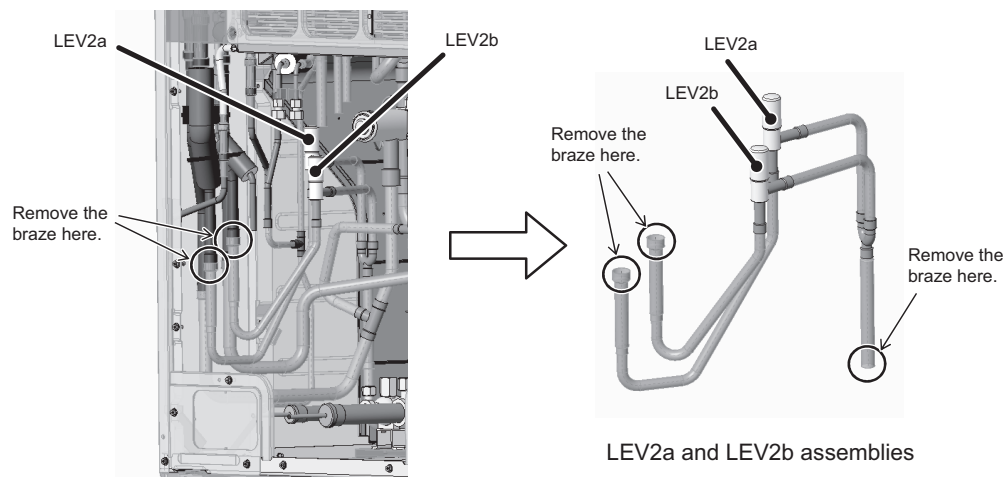

Figure 12
(12) Remove the braze at the three areas circled in Figure 12 to remove LEV2a and 2b assembly. (See Figure 12.)